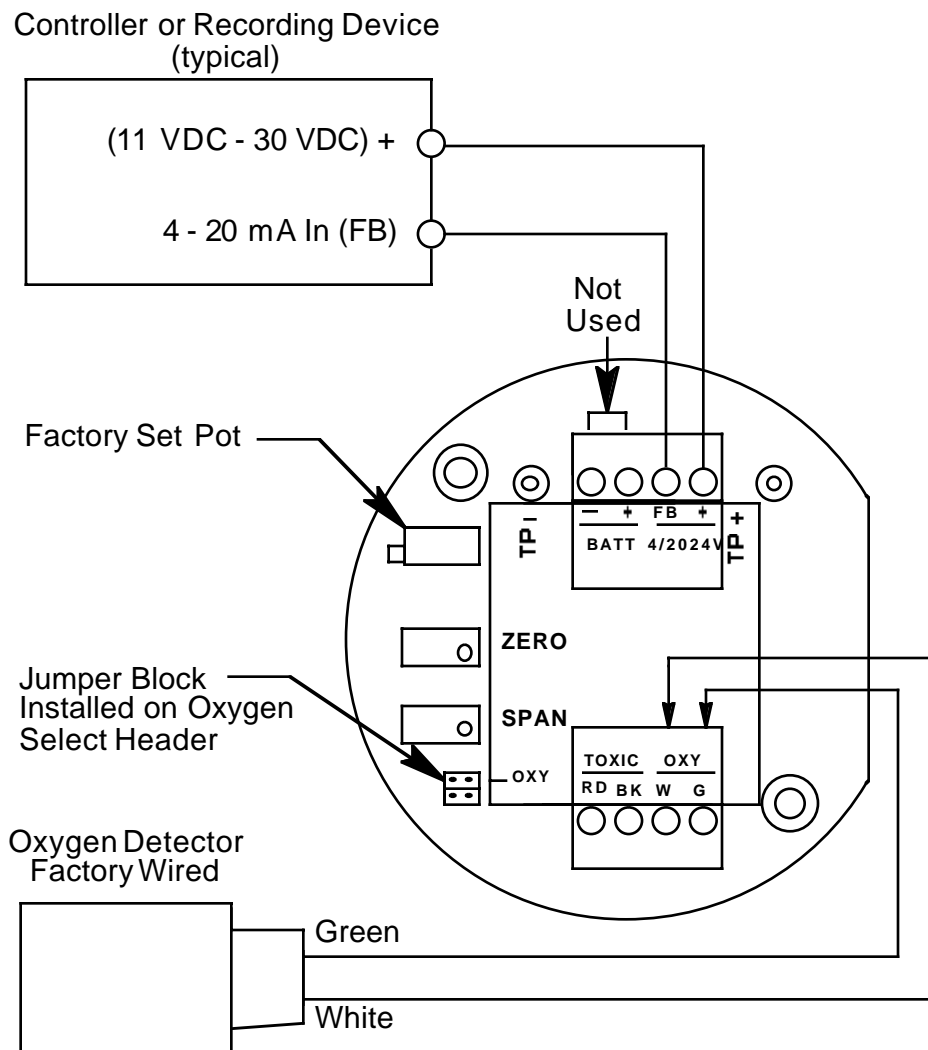

Figure 3: Wiring the Oxygen Transmitter to a Controller
4. Verify that the detector leads are wired to the amplifier's detector terminal strip. If necessary, connect the leads to the detector terminal strip as shown in Figure 3.
5. Verify that the jumper block is installed over the **OXYGEN** selector of the amplifier type selector as shown in Figure 3.
8. Connect the two wires to the interconnect terminal strip as follows (see Figure 3.)
11. Connect the wires to the applicable transmitter terminal strip at the controller as shown in Figure 3.
7. Connect the detector leads to the amplifier's detector terminal strip as shown in Table 3 below and Figure 3 on page 10 of this manual.
10. Reconnect the wiring that connects the controller and oxygen transmitter to the amplifier's interconnect terminal strip as shown in Table 4 below and Figure 3 on page 10 of this manual.
11. Reconnect the detector leads to the amplifier's detector terminal strip as shown in Table 5 below and Figure 3 on page 10 of this manual.